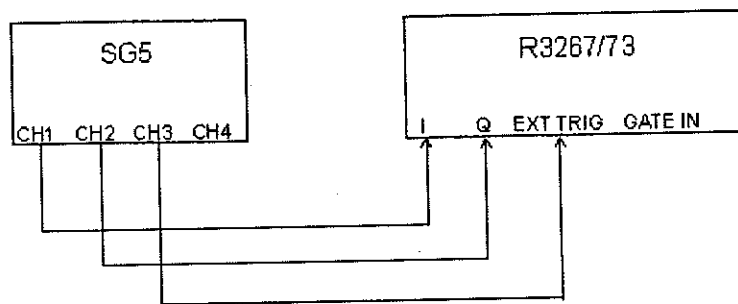

Figure 3-28 Setup of BTS Measurement Test
1. Connect equipment as shown Figure 3-28.